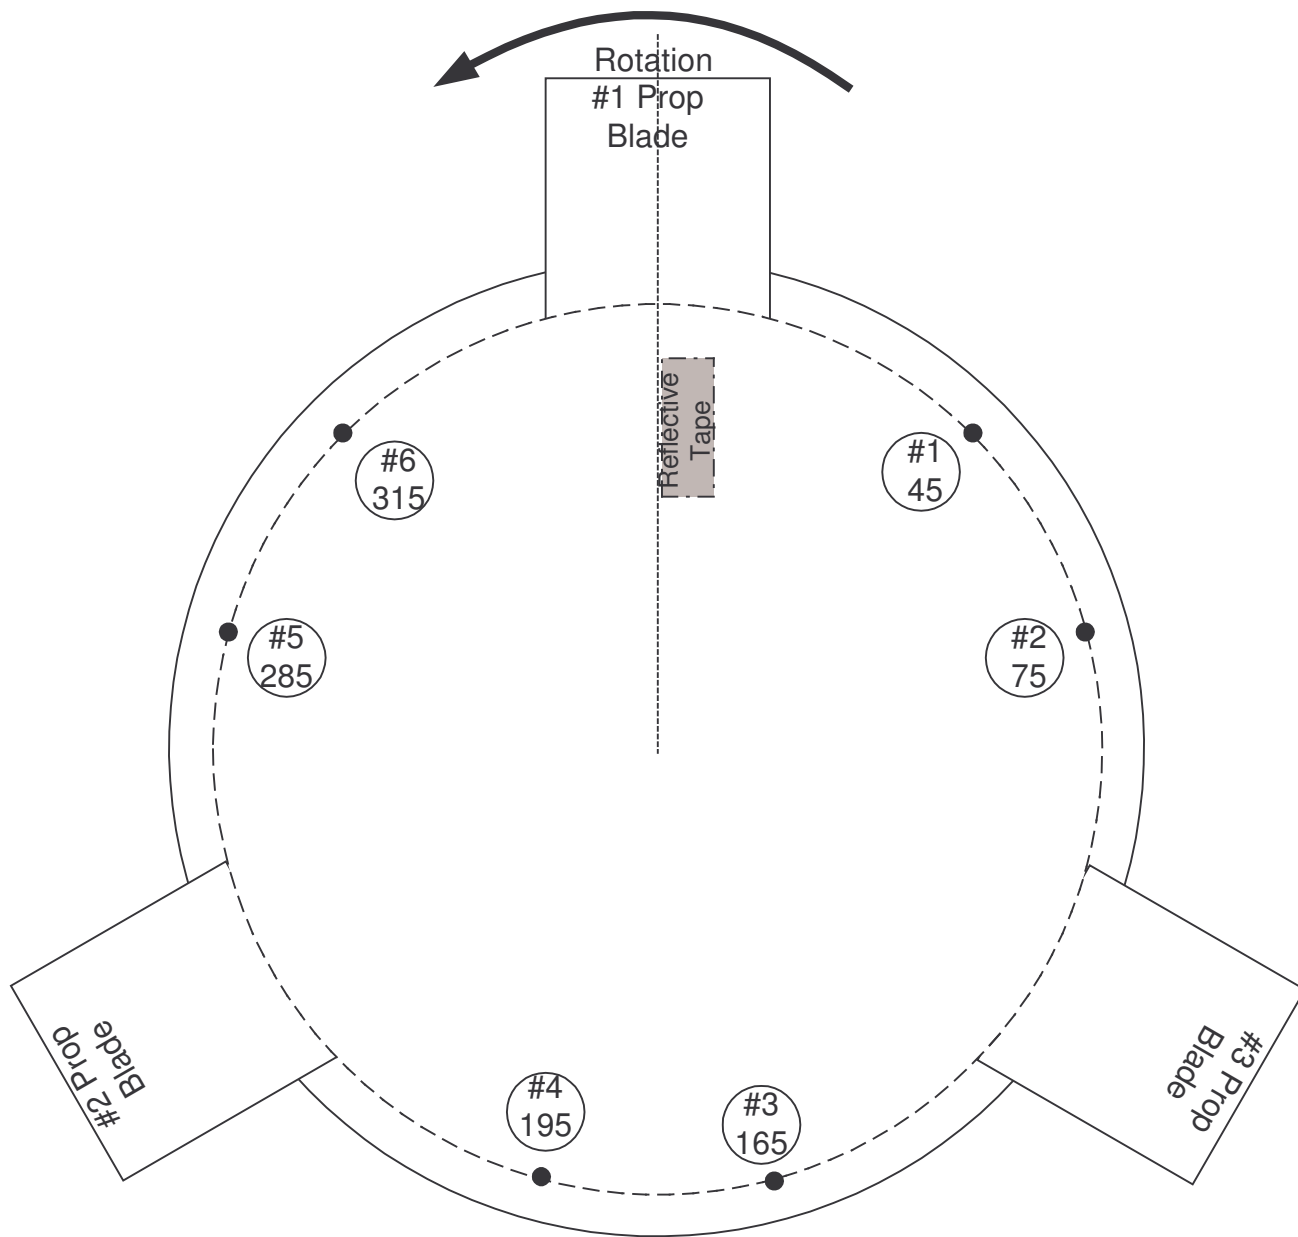

Figure 2.
5. Locate #1 blade of the propeller assembly. Draw an imaginary line radially from the outer edge of the spinner bulkhead to the center of the propeller drive shaft, centered on the #1 propeller blade. (See Figure 2. Below). At a position directly in line with the beam of the Phototach, clean the bulkhead of any dirt, grease, or oil residue. Cut a two inch length of the reflective tape from the prop balance kit and remove the backing. Stick the tape to the bulkhead area you just cleaned with the leading edge of the tape along the leading edge of the imaginary line with the center of the tape length at the approximate point where the Phototach beam will be projected. (See Figure 2. below).